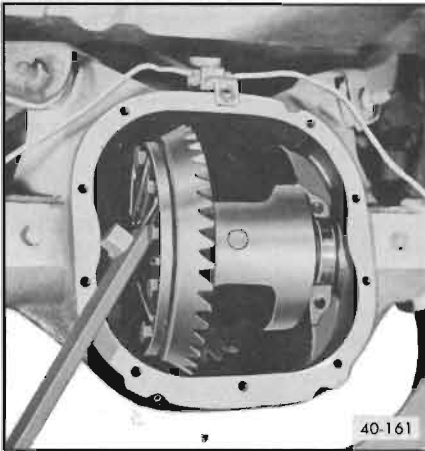

Figure 40-161—Removing Differential Case Assembly
9. Differential case assembly can now be removed by prying against ring gear bolt using a suitable pry bar. See Figure 40-161.